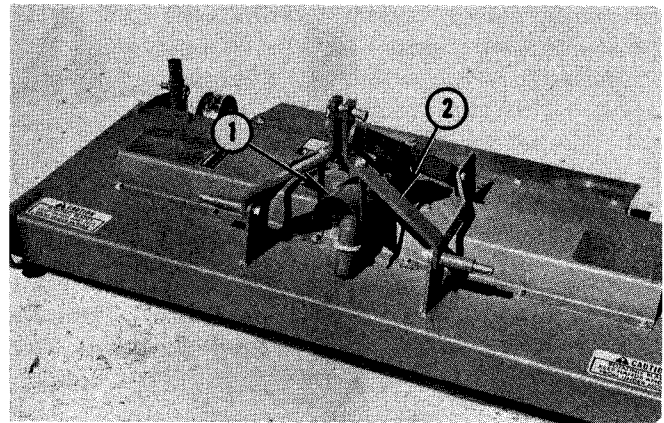

Fig. 52 — Mower Frame
2. Assemble "A" frame and mower PTO shield as shown in Fig. 52.